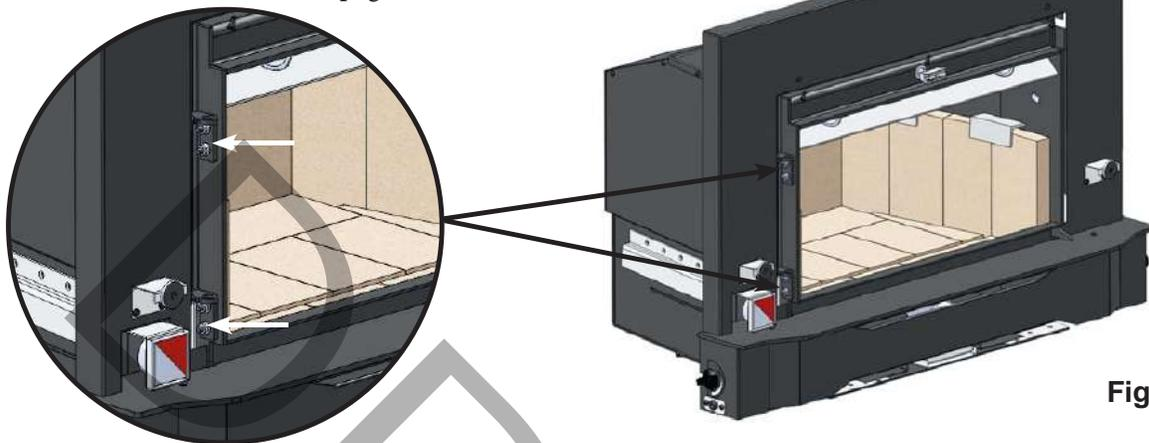

Fig. 19
4. Loosen the four door hinge nuts using a 7/16" wrench. Slide door hinges in to tighten door seal and out to loosen door seal. **(Fig. 19)**